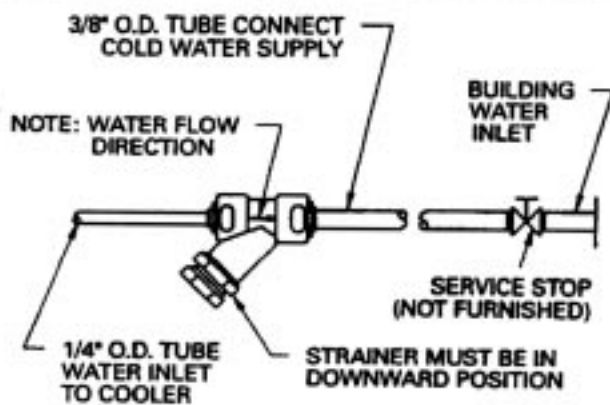

FIG. 2
- 4) Connect the water line between the service stop valve and cooler (see Fig.2).